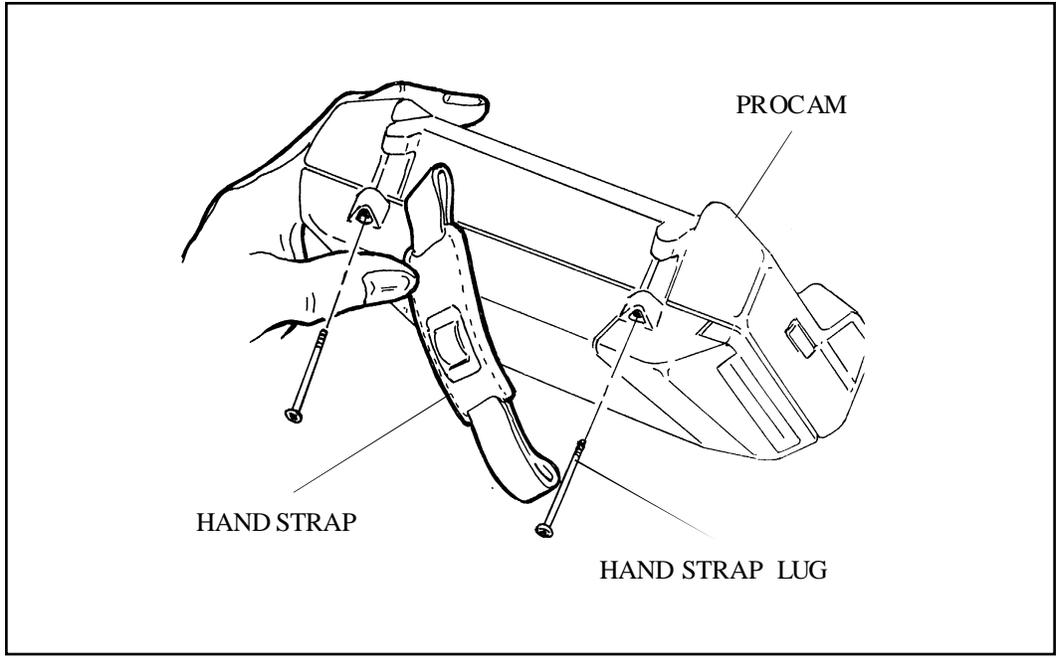

Figure 3-2. Removing Hand Strap
- c. Remove two square drive Hand Strap Lugs (screws) from Bottom Cover (Figure 3-2).